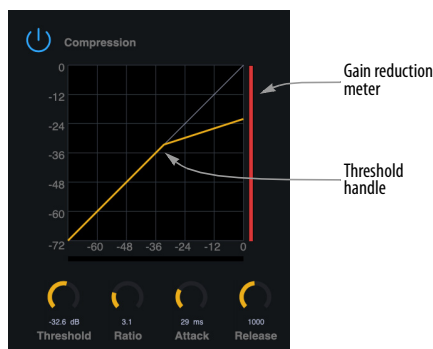

Figure 6-2: The Compressor.
All analog input channels (items 1 and 2 on page 38) provide a *Compressor* (Figure 6-2).
The *Compressor* lowers the level of the input when amplitude of the signal is above the Threshold. The amount of attenuation is determined by the *Ratio* and the input level. For example, if the input is 6 dB above the *Threshold* and the Ratio is 3:1, the compressor will attenuate the signal to 2 dB above the Threshold. When the input level goes above the threshold, the attenuation is added gradually to reduce distortion. The rate at which the attenuation is added is determined by the *Attack* parameter. Likewise, when the input level falls below the Threshold, the attenuation is removed gradually. The rate at which the attenuation is removed is determined by the *Release* parameter. Long Release times may cause the audio to drop out briefly when a soft passage follows a loud passage. Short Release times may cause the attenuation to “pump”, a term used to describe the sound of the compressor when the average input level quickly fluctuates above and below the Threshold. These issues can be addressed by adjusting the parameters. The *Gain reduction meter* (Figure 6-2) displays the attenuation applied by the compressor.